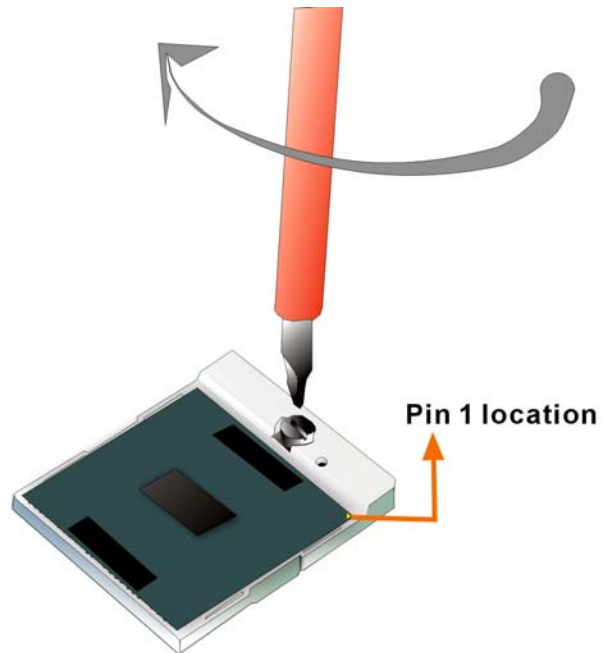

Figure 4-2: Lock the CPU Socket Retention Screw
- Step 8:** Rotate the retention screw into the locked position. (See **Figure 4-2**)